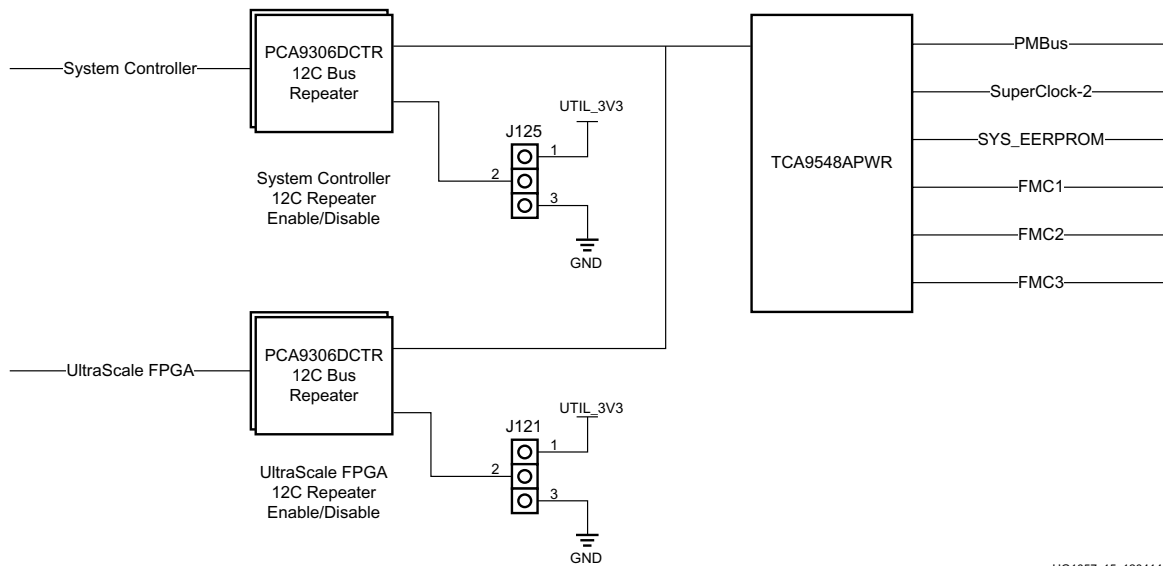

Figure 1-15: I2C Bus Multiplexer and Upstream Repeater
The upstream port of the TCA9548 multiplexer connects to PCA9306 (U46, U53, U55, and U58) dual bidirectional I2C and SMBus voltage-level translator and bus repeaters, with an enable (EN) signal (see Figure 1-15). J121 and J125 are used to enable or disable the bus repeaters and isolate the system controller or the UltraScale FPGA I2C bus.